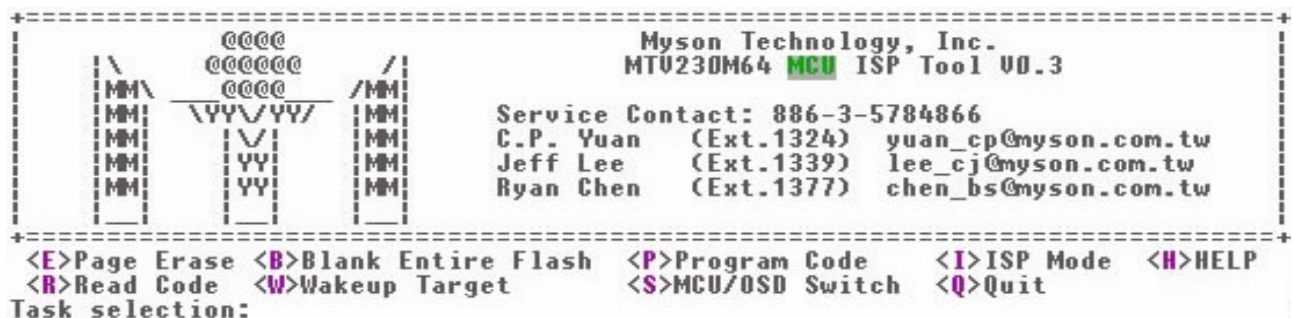

Figure 10 Entry to ISP mode
- Step1: Run the 230isp.exe to go to the ISP mode (figure10)